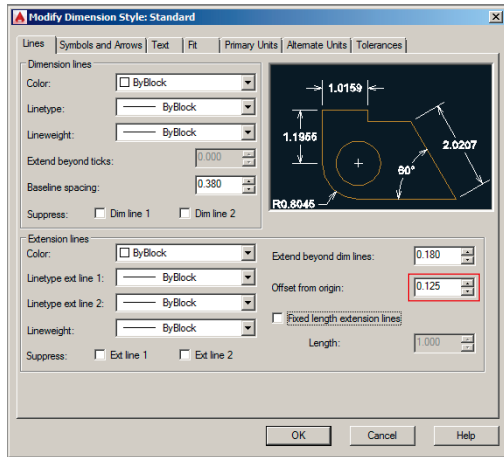

FIGURE 11.6 Increasing the offset from origin distance
- 5. Select the Lines tab. Double-click the Offset From Origin value to select it, type **0.125**, and press Tab (see Figure 11.6). Observe in the preview image how the distance between the object and its extension lines increases. Click OK and Close to save the modifications you’ve made to the Standard style.